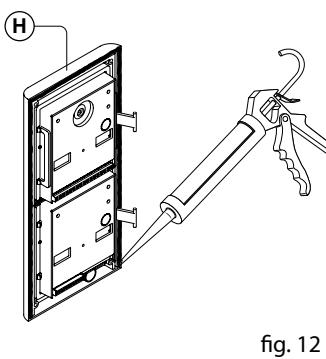

fig. 12
**⚠ In order to prevent water ingress we highly recommend using a silicon sealant between the wall and the back box **H** (**Fig.12**);**